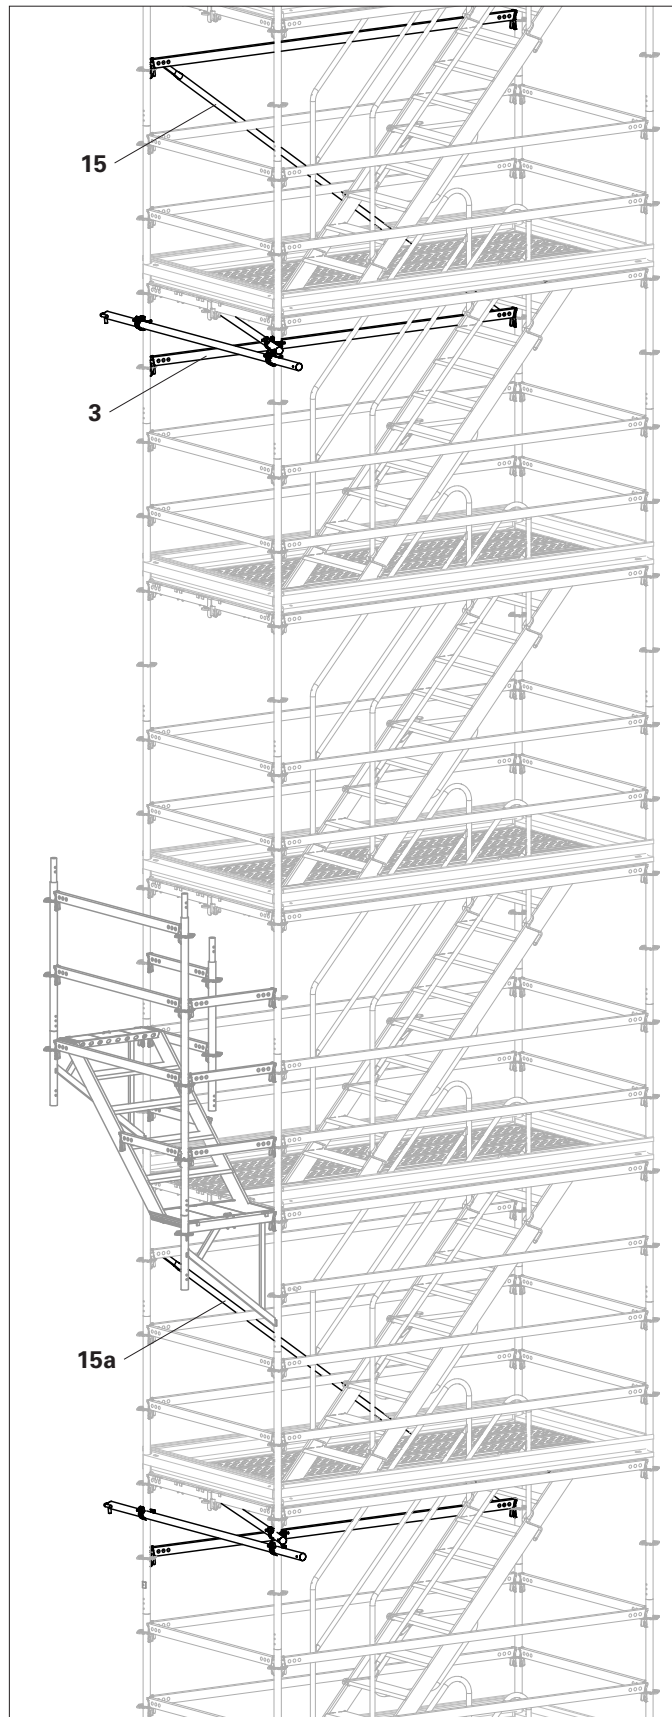

Fig. A8.06
3. Install ledger braces (**15a**) on the inner side immediately above all anchoring points positioned below. Add horizontal ledgers as required. (Fig. A8.06)